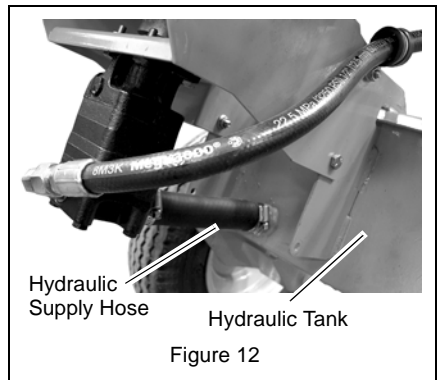

Figure 12
3. Remove hose clamp and disconnect hose from hydraulic tank. See figure 12.